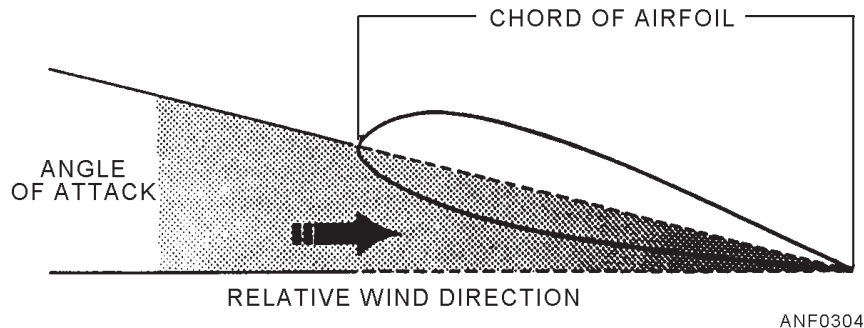

Figure 3-4.—Angle of attack.
- Relative wind* The direction of the airstream in relation to the airfoil (fig. 3-4).
- Angle of attack* The angle between the chord line and the relative wind (fig. 3-4).